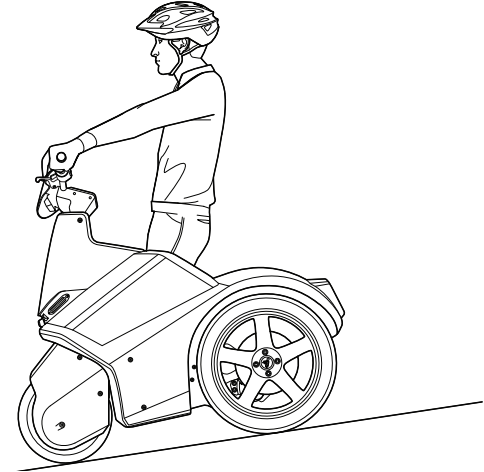

Figure 33: Lean slightly to the rear when descending
- Lean slightly backward when descending (**Figure 33**).